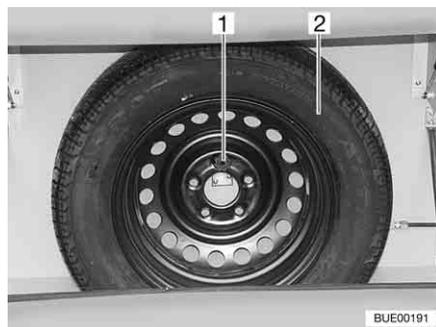

Fig. 227 Spare wheel support
The spare wheel support is fitted in the gas bottle compartment. The spare wheel (Fig. 227,2) is available for a surcharge.
- Undo bolt (Fig. 227,1).
- Remove the spare wheel (Fig. 227,2).